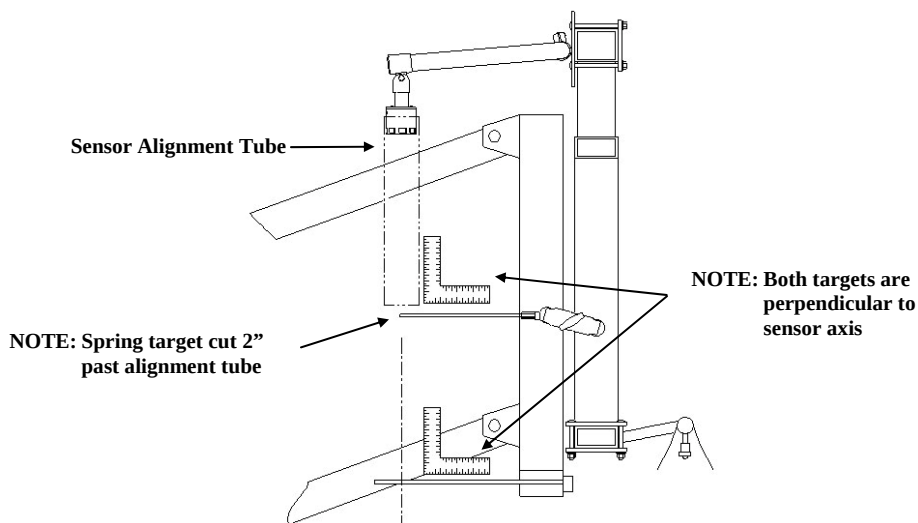

Figure 8 – Active Roll Rod and Sensor Details for a John Deere 47XX (Side View)
- Trim spring target flush with the central axis of the sensor (**Figure 8**).
- Both the spring and frame target should be perpendicular (90°) to the central axis of the sensor (**Figure 8**).